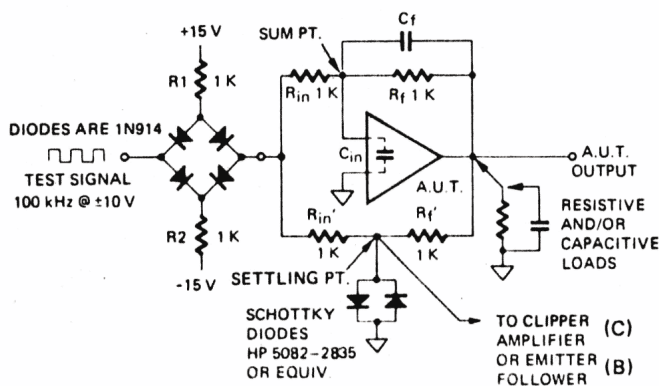

Figure 2. Test Circuit
The test circuit shown in Figure 2 is an excellent method for standard settling
① 1025 may be used non-inverting if $CMV < 4$ V p-p (7 V p-p typical).
② Measured at 2 MHz for 1025, 10 MHz for 1027, and 1 MHz for 1030.
③ Circuit of Figure 2, 1 K, 1 K inverter, $C_f = 15$ pF④ Using supplied settling time trim resistor (2.7 K \pm 130 Ω)⑤ 1027 Initial Offset is ± 15 mV with external 499 Ω 1% resistor, ± 150 mV if no resistor is used.